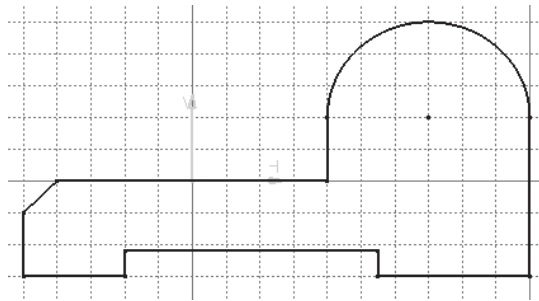

Figure 1-36 The outer loop of the sketch
- Draw the sketch of the model using the **Line**, **Arc**, and **Circle** tools, refer to Figures 1-36 and 1-37.
The completed outer loop of the sketch is shown in Figure 1-36. The display of the constraints is turned off using the **Hide/Show** tool.